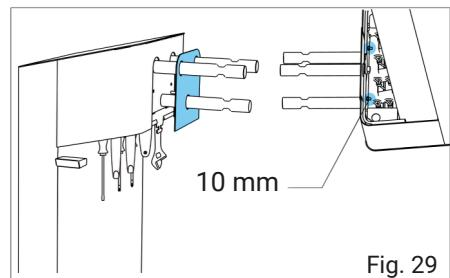
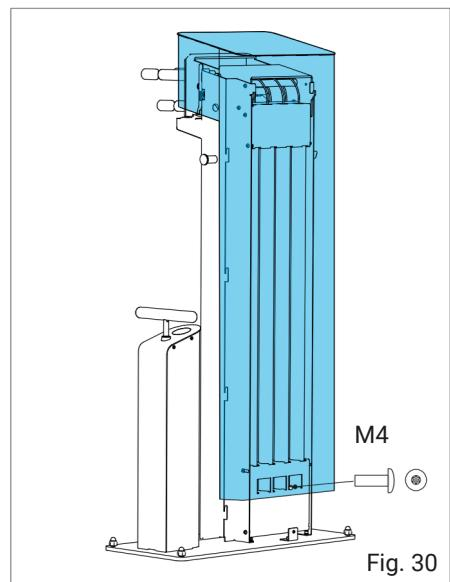

Fig. 29
Fig. 30
- 3 You can now loosen the two micro-encapsulated M8 cylinder head screws of the saddle mounting bolts with a 6 mm Allen key. The two upper saddle mounting bolts can be loosened from above inside the station (Fig. 29). The screws of the lower saddle mounting bolt can only be loosened inside the tool compartment (7) (Fig. 30).